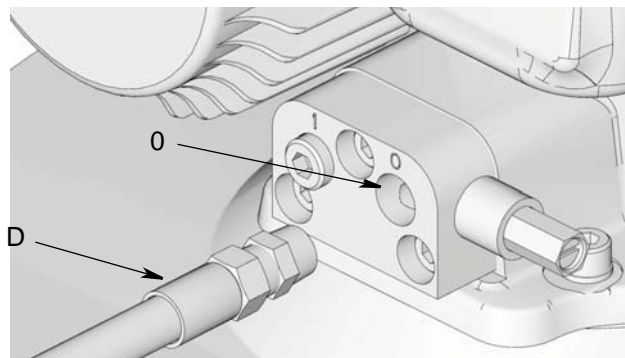

FIG. 54: Lubricant Outlet Connection
3. Disconnect Timer/Controller (F) (user supplied, if used).
4. Disconnect High Pressure Lubricant Supply Line (D) to the Lubricant Output Connection (0) (FIG. 54) on the Vent Valve or Manifold.